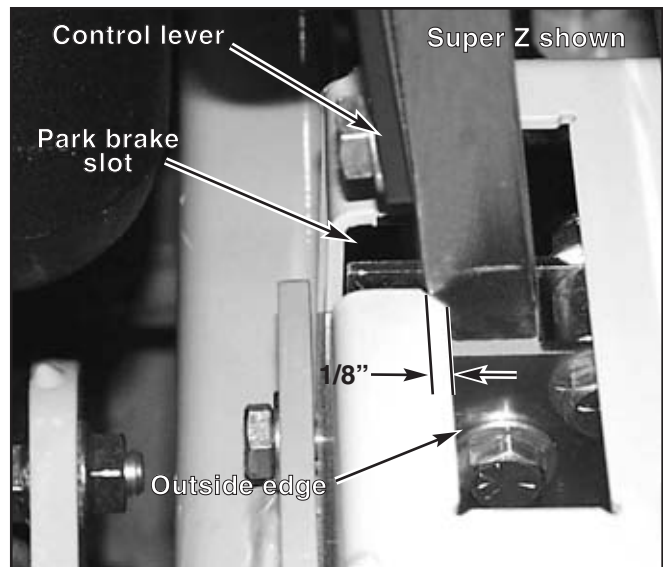

Figure 5-10
**Super Z** - Move the control lever to where it is just inside (1/8") the park brake slot. Fig. 5-10